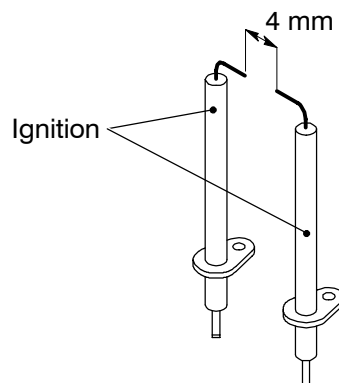

Fig. 65
- 2 Check for the correct distance between the metallic edges of the ignition electrodes (see Fig. 65).